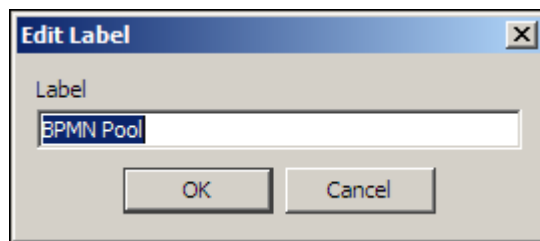

Figure 27: Edit Label
- The **Edit Label** screen is displayed (see Figure 27).